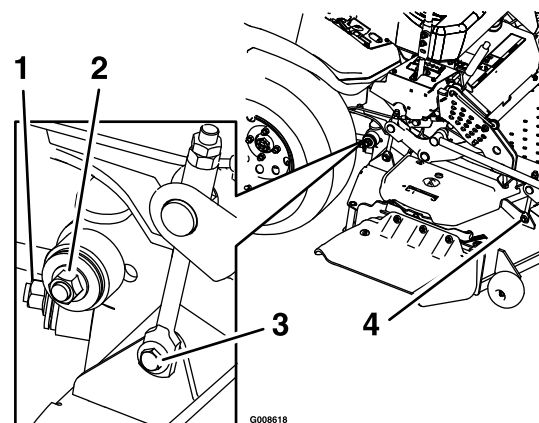

Figure 29
6. Remove and retain the hardware on both sides of the deck as shown in Figure 29.